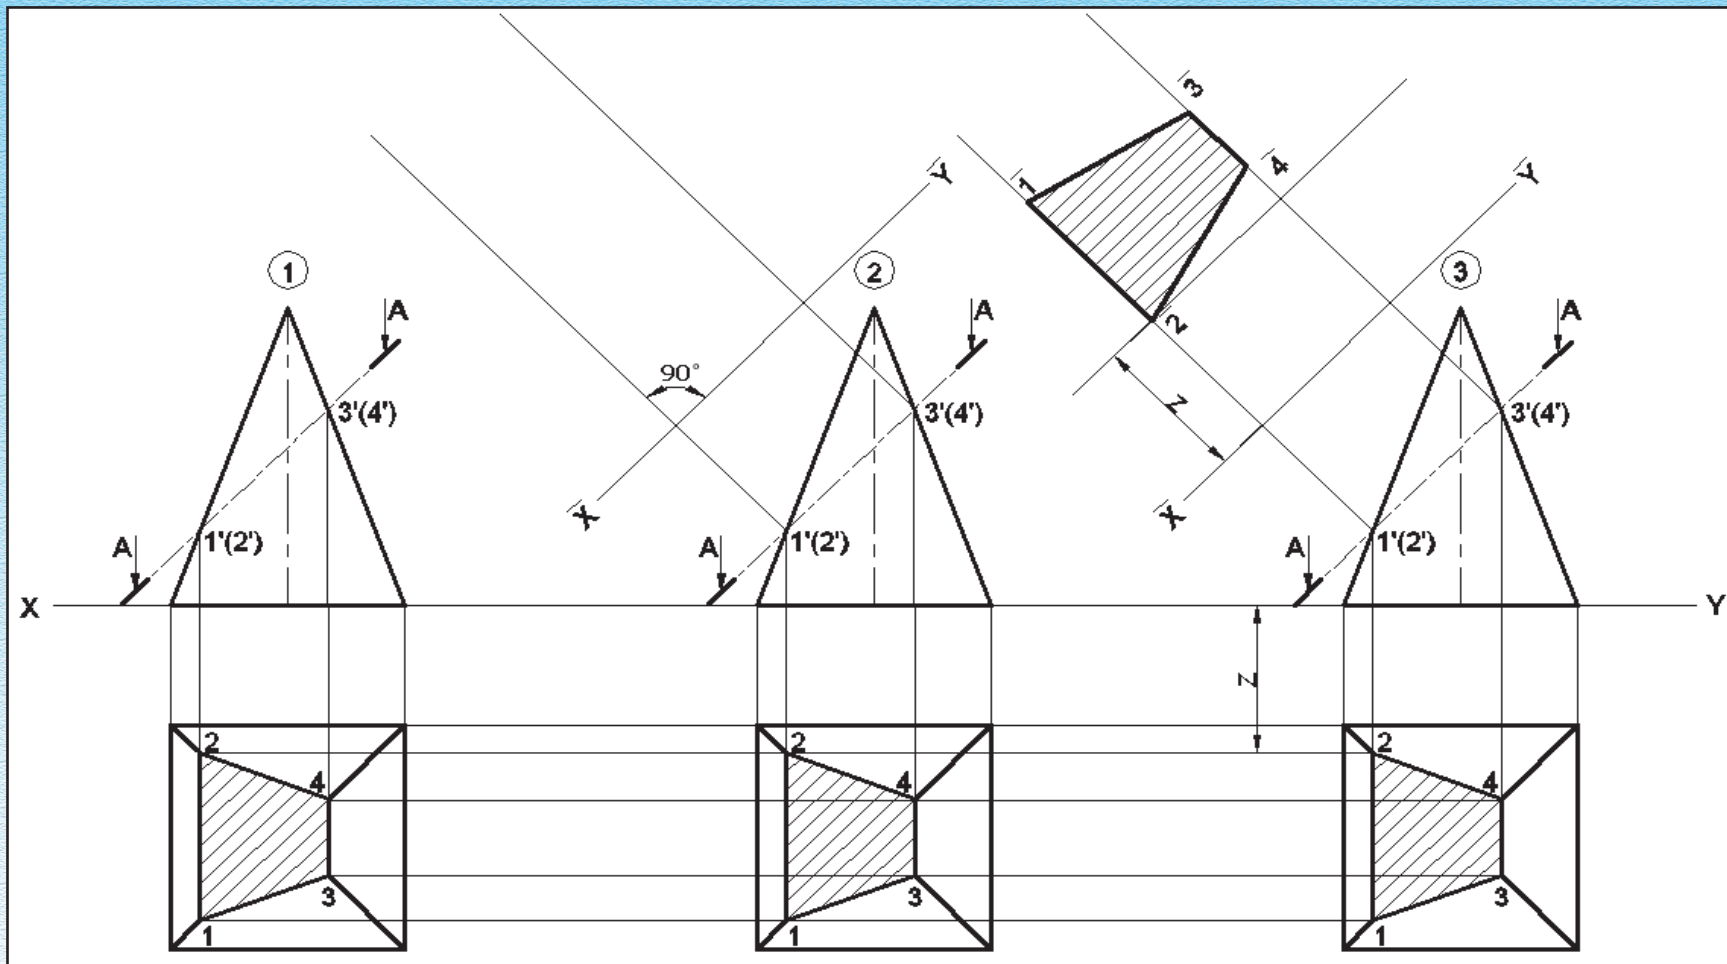

Fig. 5.38
Steps of construction : Refer to Fig. 5.38
1. Refer to Fig. 5.38 (1) Draw the projections of the solid including the sectional view as learnt earlier in (5.3)
2. Refer to Fig. 5.38(2) Draw a thin line $\bar{X}-\bar{Y}$, which represents the auxiliary plane, parallel to the section plane (here, A-A) at a convenient distance. Then draw projectors (thin lines perpendicular) to $\bar{X}-\bar{Y}$ from the POIs (here pts 1',2',3' & 4') intersecting the cutting plane.
3. Refer Fig. 5.38(3) Measure the distances of all these projected POIs in the sectional view with respect to X-Y line and mark them on their respective projectors from $\bar{X}-\bar{Y}$. Here distance 'z' of pt. 2 in the Top View is marked on the projector ($\perp$ line) with respect to $\bar{X}-\bar{Y}$. And so on for other POIs.
[Fig. 5.38 Step-wise Procedure to obtain true shape of a section]